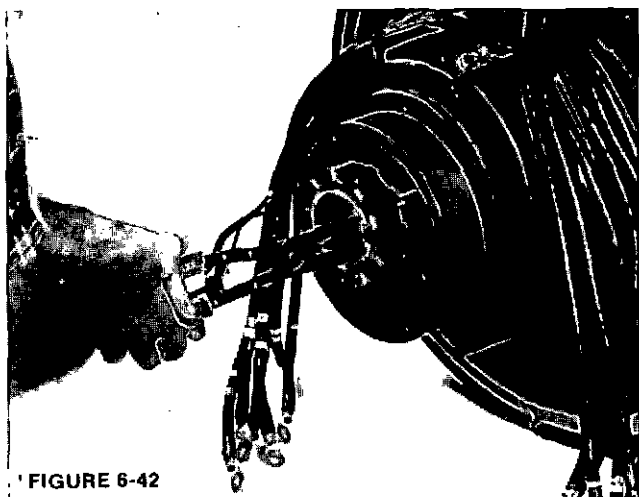

FIGURE 6-42
3. Install loading spring and PMG rotor on the stub shaft and secure with the snap ring. The loading spring will push out on the PMG rotor. A piece of pipe slightly larger than the shaft can be used to push the snap ring back until it engages in its slot. (Figure 6-42.)